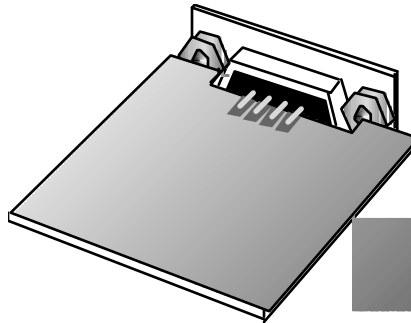

Figure 2
- Press J1 (with the nuts attached) onto the notched edge of the KIO2 board as shown in Figure 2. *There must be no gap between J1's plastic body and the edge of the board.* The bottom side of the board has four pads, corresponding to the row of 4 pins on J1. The other side has 5 pads, matching J1's 5-pin row. Each solder-cup pin should be lined up as closely as possible with the center of its pad. Do not solder yet.